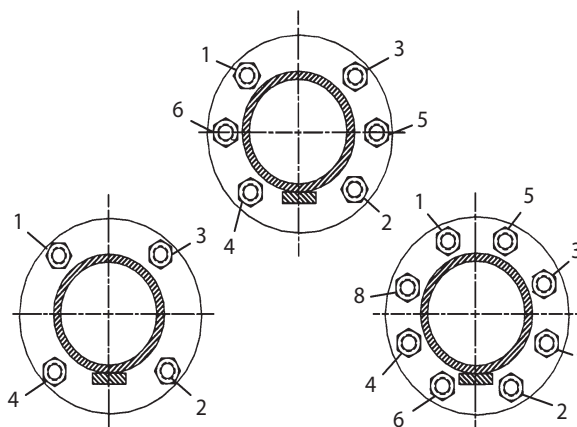
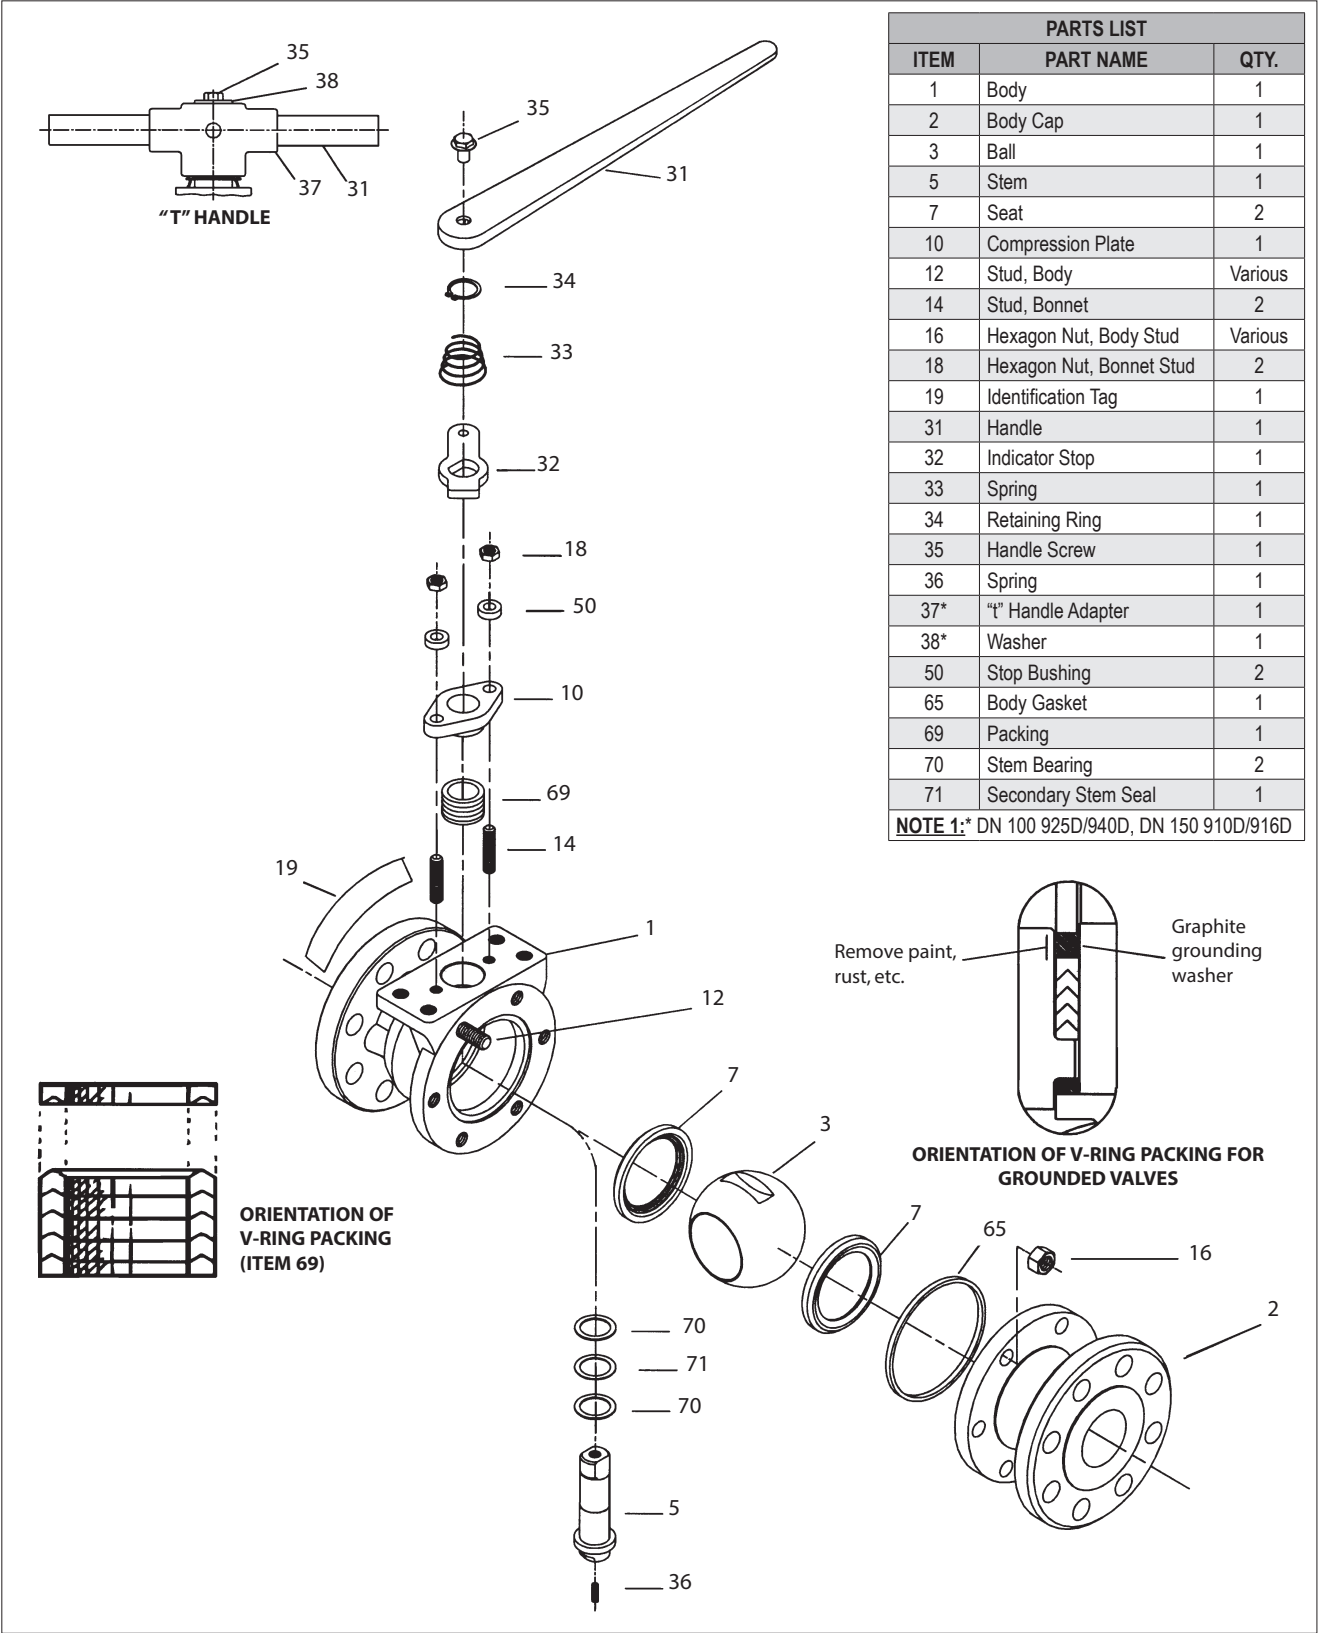

Figure 2.
Figure 3.
5. Standing the body (1) carefully on end, install one seat (7).
6. From inside the valve, place a thrust bearing (70), a secondary stem seal (71), and the second thrust bearing into the stem bore. **(See Figure 3 for proper orientation.)** Place the spring (36) into the bottom of the stem.
7. Insert the stem (5) from inside the body through the bonnet of the valve.
8. Install the packing (69). **(If the packing is V-ring type, be certain that they are installed in the orientation shown in Figure 3)** If the valve is to be grounded, remove one middle V-ring and place graphite grounding washer on top of stack. **(See Figure 3)**
9. Place compression plate (10) over the stem (5) and studs (14). Place stop bushings (50) and nuts (18) on studs (14) and tighten "finger tight," then tighten an additional 1/4 turn.
10. Install the ball (3) rotating it onto the stem (5) in the closed position. Gently rock the ball to make sure the stem is centered in the ball slot **(see Figure 3, stem-to-ball location)**.
11. Gently place the body gasket (65) into the machined recess of the body (1).
12. Place the remaining seat (7) on top of the ball.
13. Place the body cap (2) over body studs (12) being careful to properly orient body cap and body as originally assembled by matching orientation marks made prior to disassembly. Take care not to damage body gasket (65) or seat (7) during this operation.
14. Lubricate the threads and face of nuts (16) with Never-Seez® or equivalent. Install nuts (16) on body studs (12) and tighten sequentially as shown in the diagram **(Figure 2)**, to the recommended torques as shown in the torque chart **(Table 2)**.
15. Place the indicator stop (32) with "bottom" facing down over the stem so that the longer part is over the body.
16. Place the spring (33) over the stem (5) with the larger diameter contacting the indicator stop (32).
17. Compress the spring (33) and hold down by putting the retaining ring (34) in the groove in the stem (5).
- From Figure 3, the ballooned part number, part name and quantity required